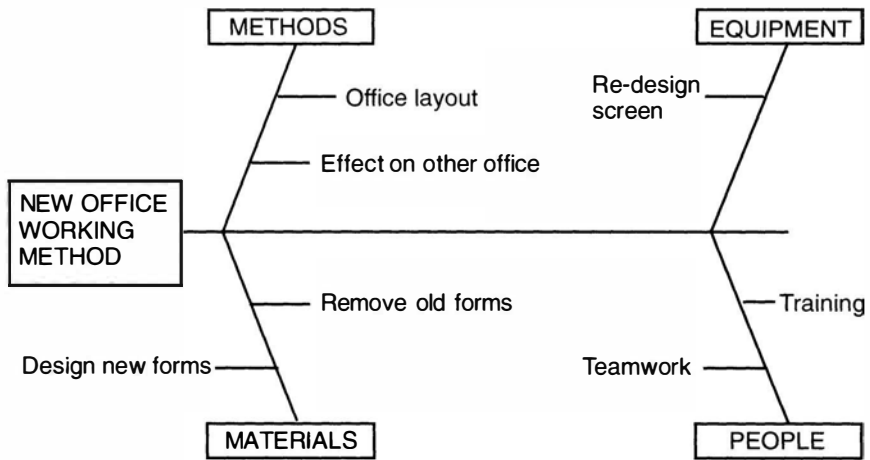

Figure 1 *Solution effect diagram*
- 3 Draw a solution effect diagram (see Figure 1).
The example shown in Figure 1 examines the effects of introducing a new working method into an office. The group looked at all the possible effects of a new accounting system, and classified them under the main headings as shown.